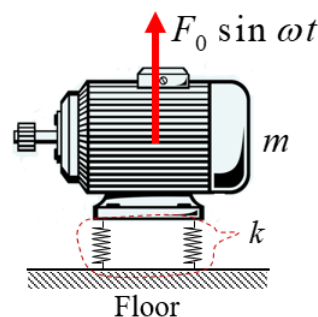

Figure 4(a)
- (b) Figure 4(a) shows a motor of mass m operating at a speed of 1200 rpm supported on four identical rubber pads. Take the effective stiffness of all four springs put together as k . In starting, the motor passes through a resonant frequency at 600 rpm. Ignore the damping effects of rubber pads.